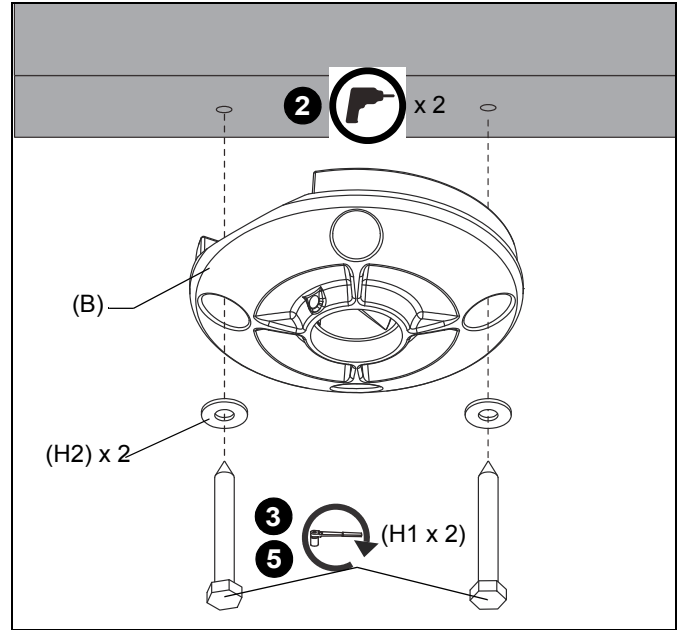

Figure 2
3. Loosely install two (minimum) 5/16" x 2-3/4" lag screws (H1) through 5/16" washers (H2) and ceiling plate (B), into wood joist. (See Figure 2)
5. Tighten lag screws (F). (See Figure 2)